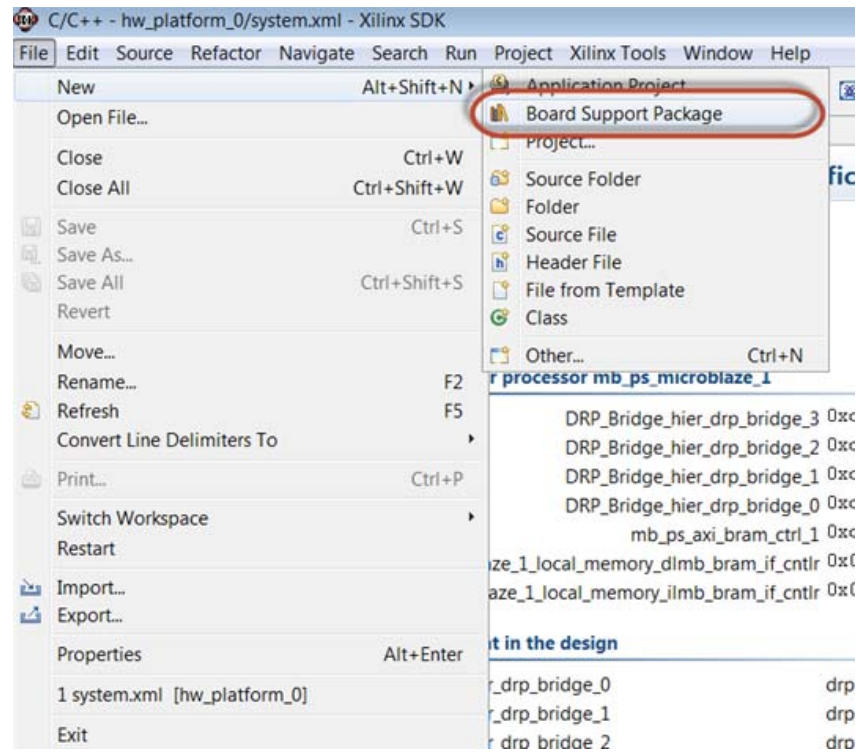

Figure 12: Creating a Board Support Package
- Next, create a new Board Support Package (BSP) by clicking **File > New > Board Support Package** as shown in Figure 12.